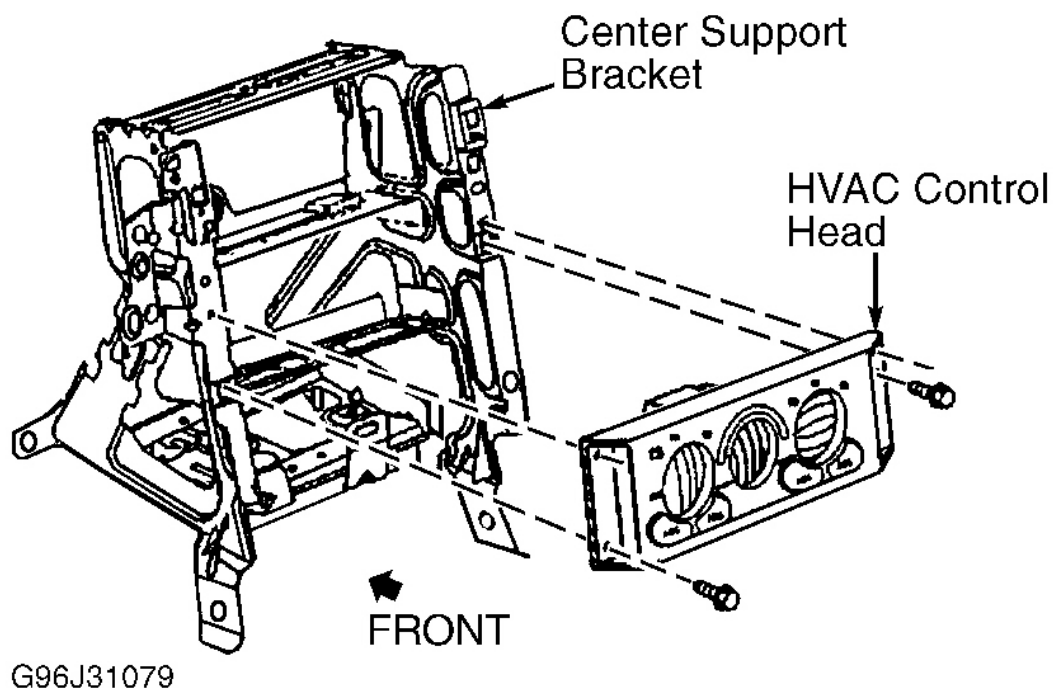

Fig. 7: Removing HVAC Control Head & Center Support Bracket
3. Remove HVAC control head mounting screws. Disconnect electrical and vacuum connectors. Remove HVAC control head from vehicle. See **Fig. 7** . To install, reverse removal procedure.
- 11. Remove bolts connecting center support bracket to driveline tunnel. Remove bolts attaching center support to passenger knee bolster bracket, and lower support beam. Remove bolt attaching ignition switch housing bracket to steering column bracket. Slowly pull center support bracket rearward to access radio and HVAC control head connectors. Disconnect radio and HVAC control head connectors/harness retainers and park/lock cable clip. Remove bolts attaching ignition switch housing bracket to center support, and remove ignition switch housing bracket. Remove I/P harness from center support bracket. Remove center support bracket from vehicle. See **Fig. 7** .